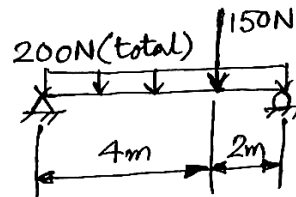

Fig Q-3
3. Sketch the shear force and bending moment diagrams for the beam shown in Fig Q-3, marking important points on the diagram, including point(s) of contraflexure, if any.